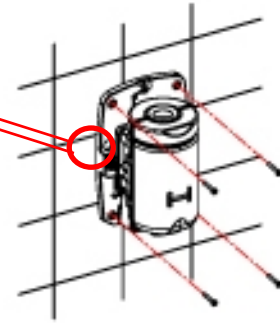

Figure 6.
- Firmly screw the base of the device to the wall (Figure 6), ensuring that the 4 silent-blocks are correctly placed between the base and the wall.